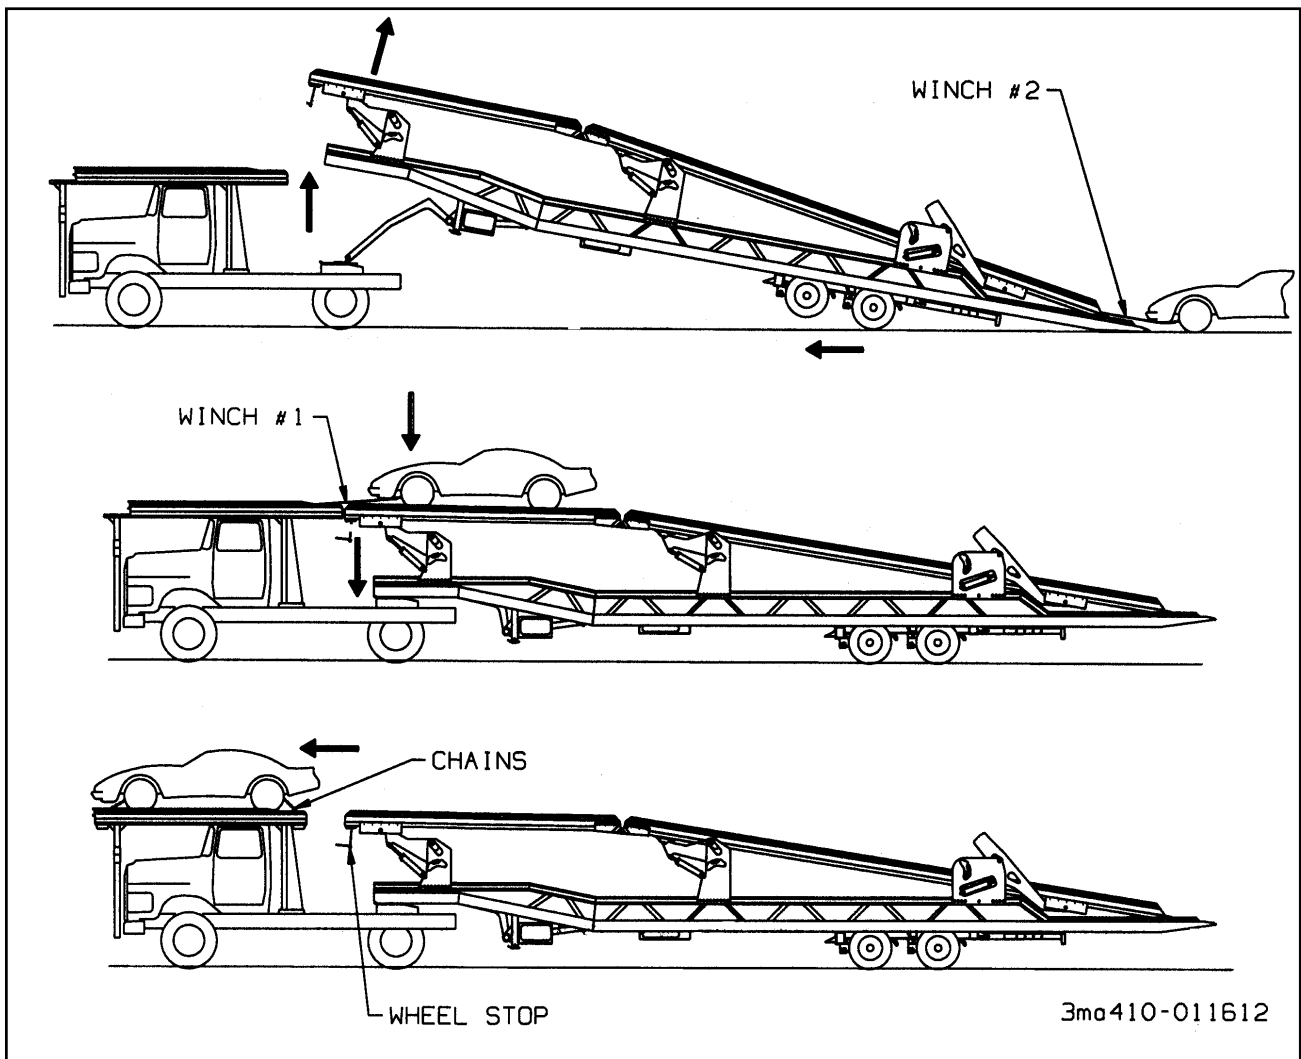

Figure 3-8 Loading the Over-the-Cab Deck
- 3-14.6 Unlock and raise the front arm as high as it will go (**See Figure 3-8**).
- 3-14.7 Make sure the trailer axles are all the way forward. Tilt the trailer with the **TRAILER TILT CONTROL**, until the approach plate of the lower deck touches the ground (**See Figure 3-8**).